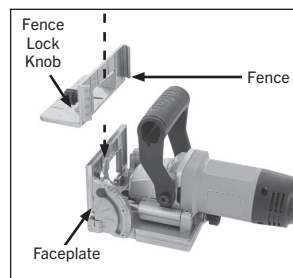

Fig.6: Fence attached to faceplate.
1. Loosen fence lock knob, and slide fence onto faceplate (see Figure 6).
2. Tighten fence lock knob (see Figure 6) The machine is equipped with a 1" dust port that can attach to a dust collection system (not included) or the included dust bag.